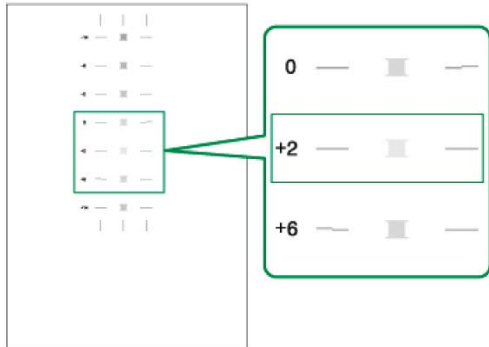
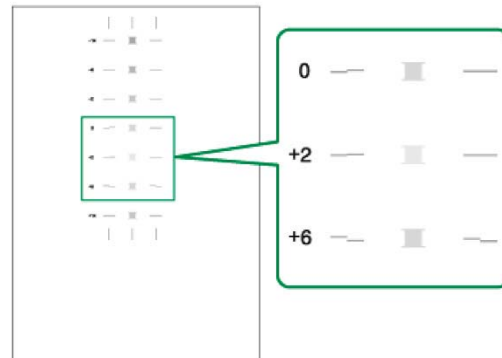

Figure 1
Figure 2
8. To determine which value is optimum, look for the number that appears on the left of the lightest gray square with straight horizontal lines on both sides. **(Figure 1)** When horizontal lines beside the lightest gray square are broken, select the optimal adjustment value by referring to the lines broken in the opposite direction. **(Figure 2)**